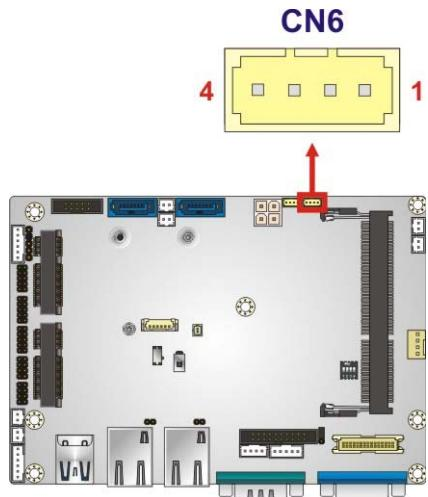

Figure 3-23: SMBus Connector Location
**CN Location:** See Figure 3-23